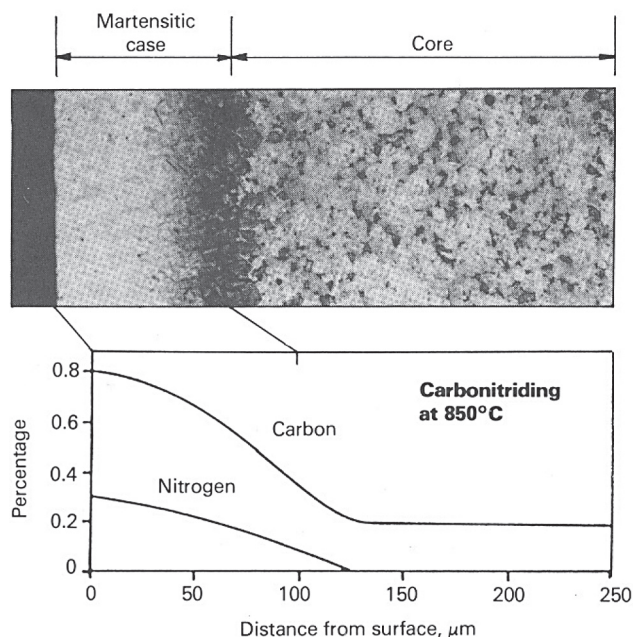

Fig. 1¹ — Surface layers produced by carbonitriding of steel at 1560°F (850°C) where carbon predominates in the formation of a martensitic layer.
One of the most common case hardening heat treatments for fasteners is that of gas carbonitriding. Carburizing is a modified gas carbonitriding is a modified form of the carburizing process and is not a form of nitriding. In this process, both carbon (C) and nitrogen (N) are introduced into the surface of the steel by introducing ammonia (NH₃) as well as a hydrocarbon enriching gas into the furnace atmosphere in order to add nitrogen to the carburized case as it is being produced (**Figure 1**).